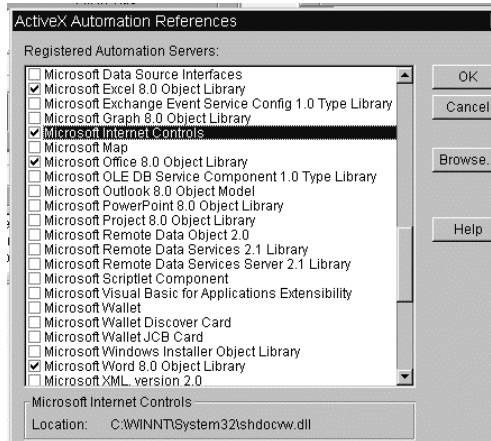

Figure 9.9. The ActiveX Automation References box
2. Select Menu Bar => Click Device => ActiveX Automation References...; select Microsoft Word™ Object Library, Microsoft Office Object Library, and Microsoft Internet Controls; click OK. (The revision numbers will depend upon the version of Microsoft Office™ you have installed.) See Figure 9.9.